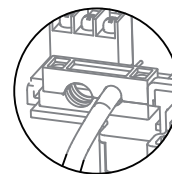

Figure 6.5
- When connecting the power line, the power line should go through the small hole in the clamp (there are two holes in the clamp)(See Figure 6.5)